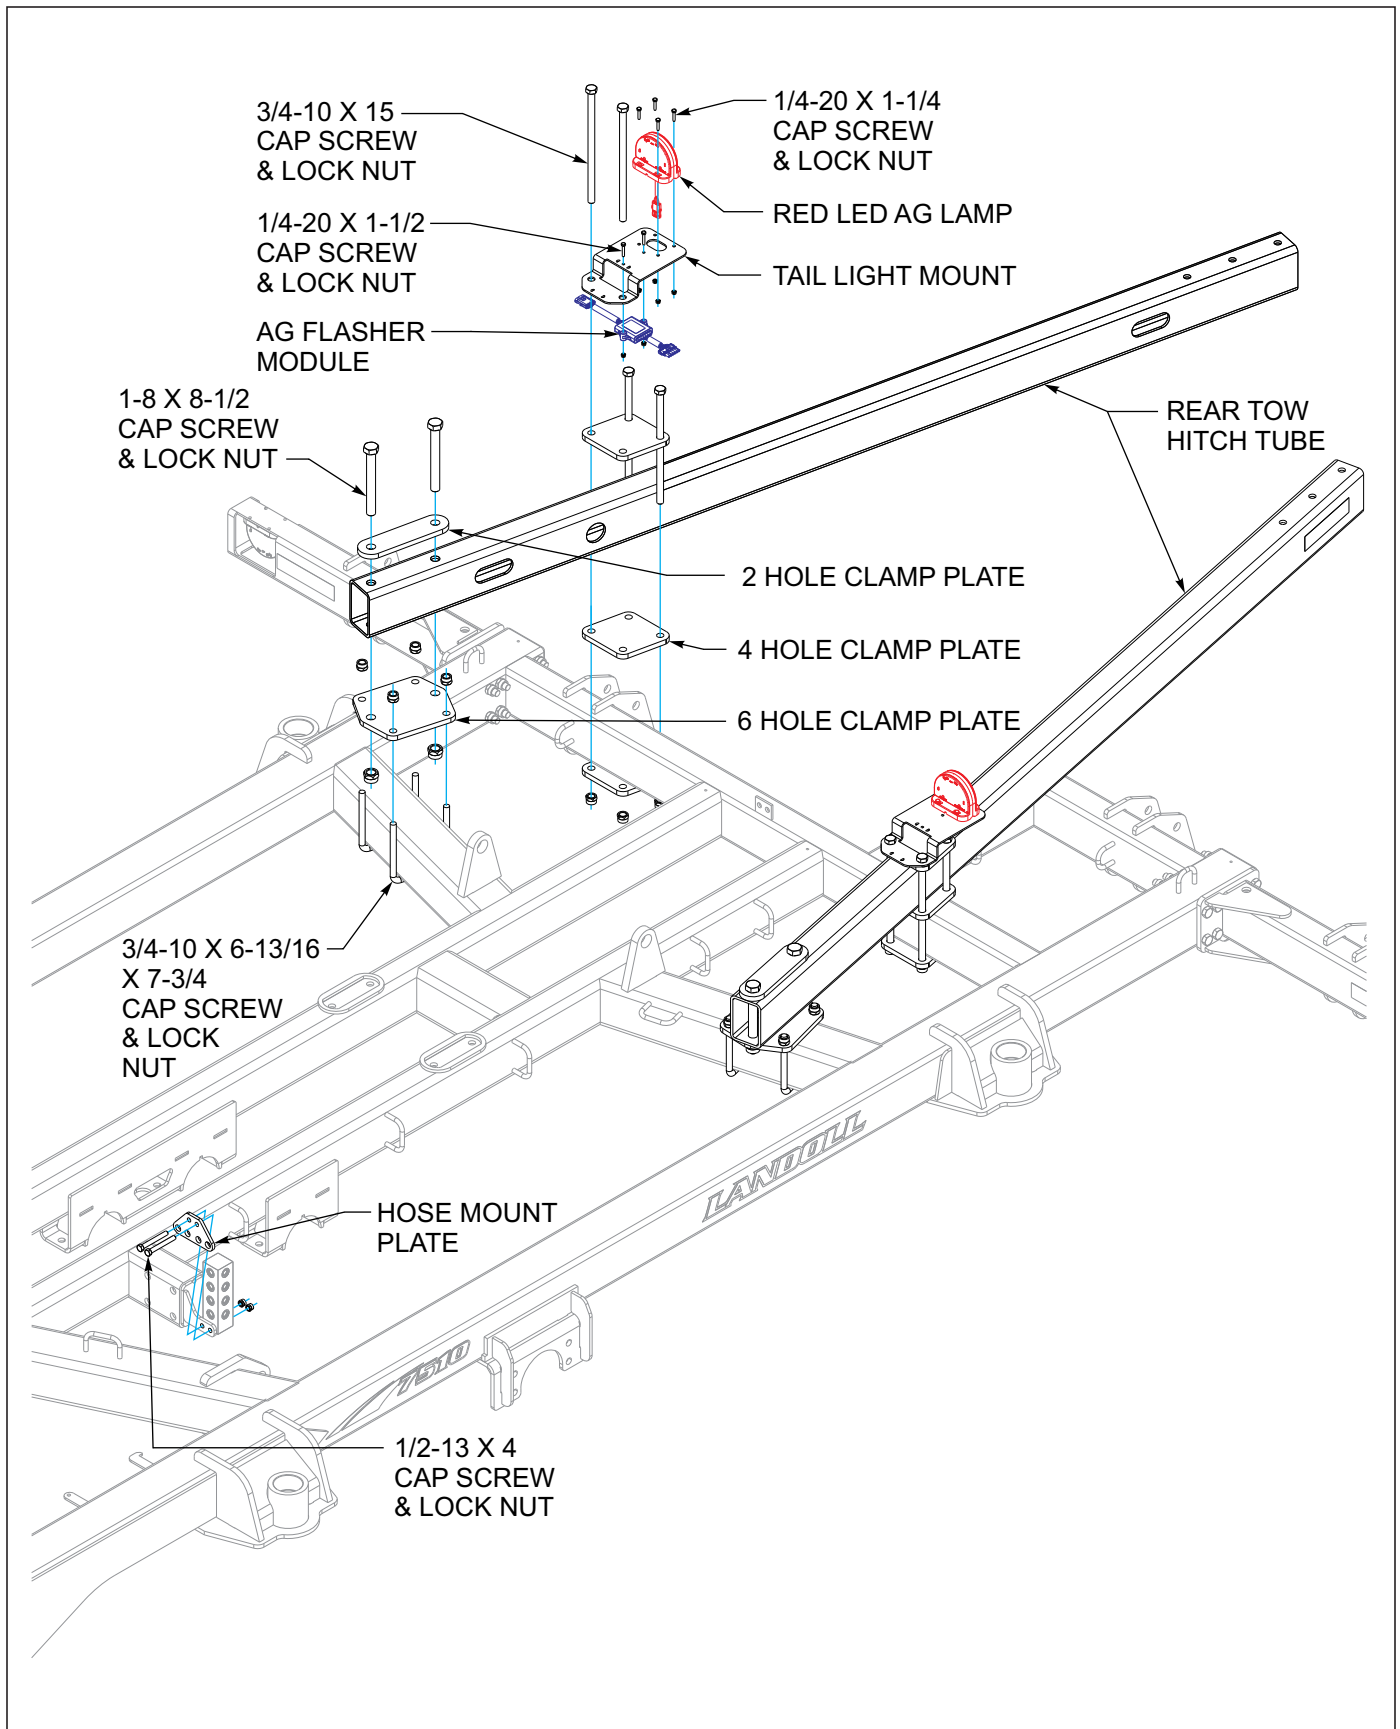

Figure 3-21: Rear Tow Hitch Installation (1 of 2)
*The red led ag lamps, ag flasher module and tail light mounts will need to be removed from rear tube of center frame. The ag flasher module and red led ag lamps will be re-installed to the new tail light mounts as shown (See Figure 3-21.)*
5. Attach rear tow hitch tubes with plates and secure with 1-8 x 8-1/2 cap screws and lock nuts, on angle tubes of rear of center frame in position shown (See Figure 3-21.).
6. Attach plates, ag flasher module, tail light mount, red led ag lamp to rear tube of center frame in location show with hardware shown (See Figure 3-21.)